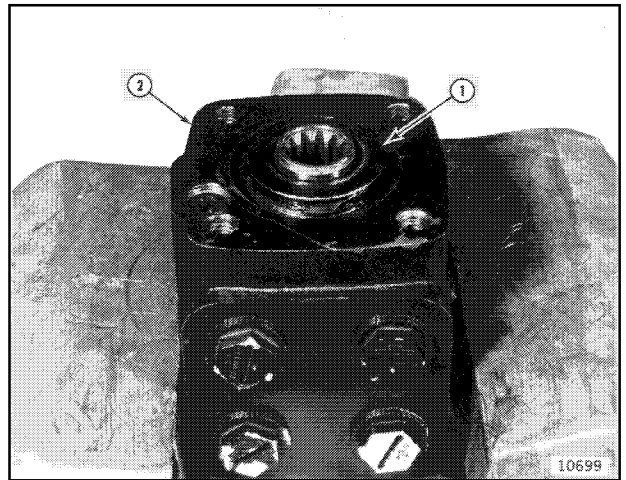

Figure 10
11. Pry seal gland bushing (1, Figure 10) from housing (2).